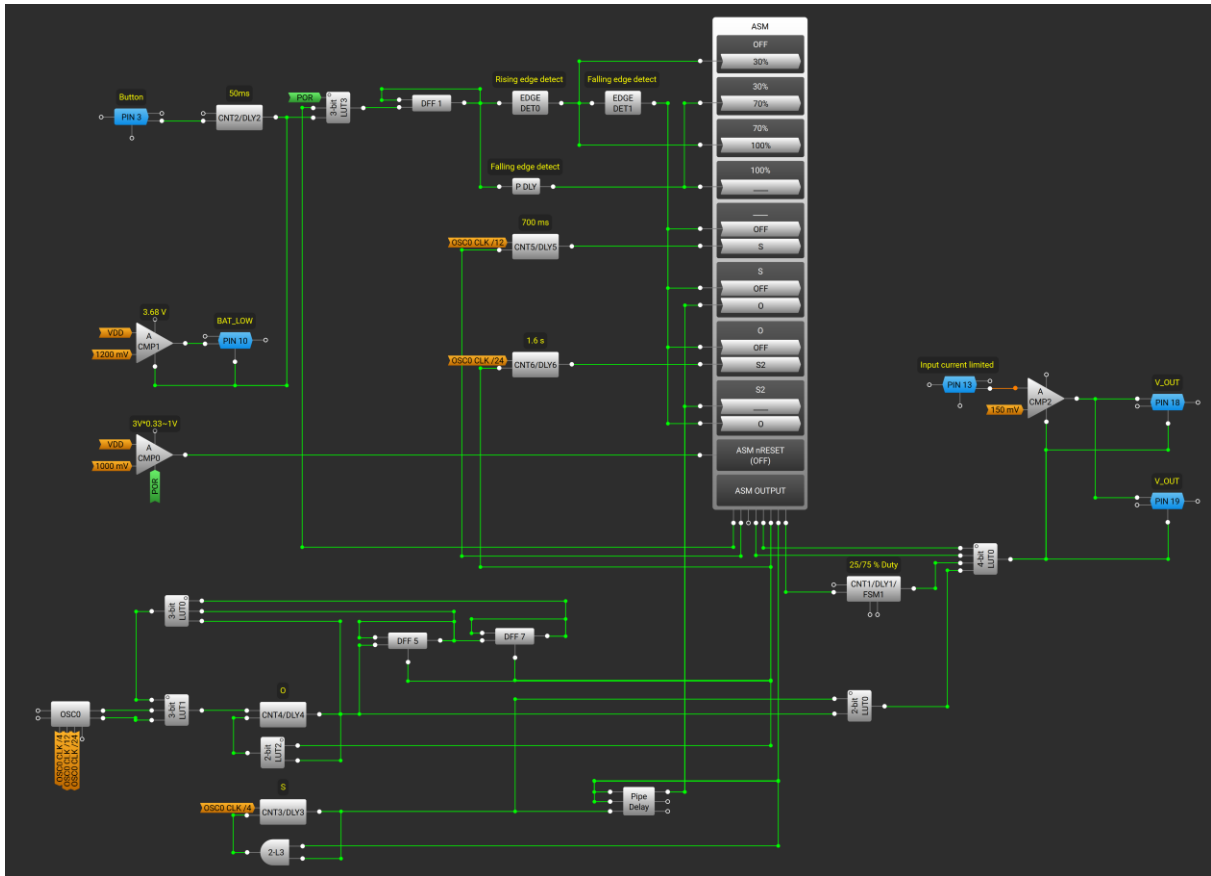

Figure 2. LED headlight circuit design
- Figure 2. LED headlight circuit design5